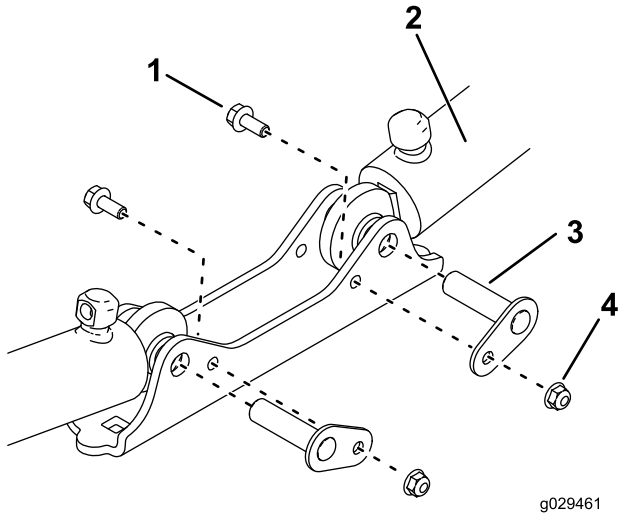

Figure 6
3. Remove the hydraulic cylinders from the cylinder-mount plate (Figure 6).